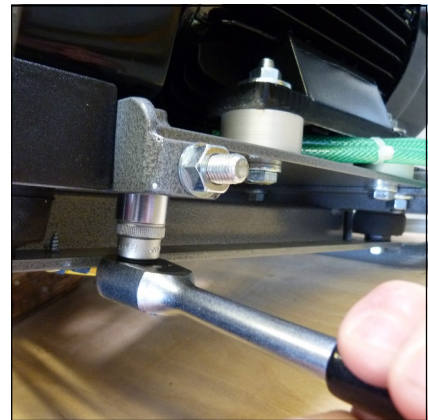

Fig. 1 - Loosen mounting screws of the motor flange
- Loosen mounting screws of the motor flange (Fig. 1+2).